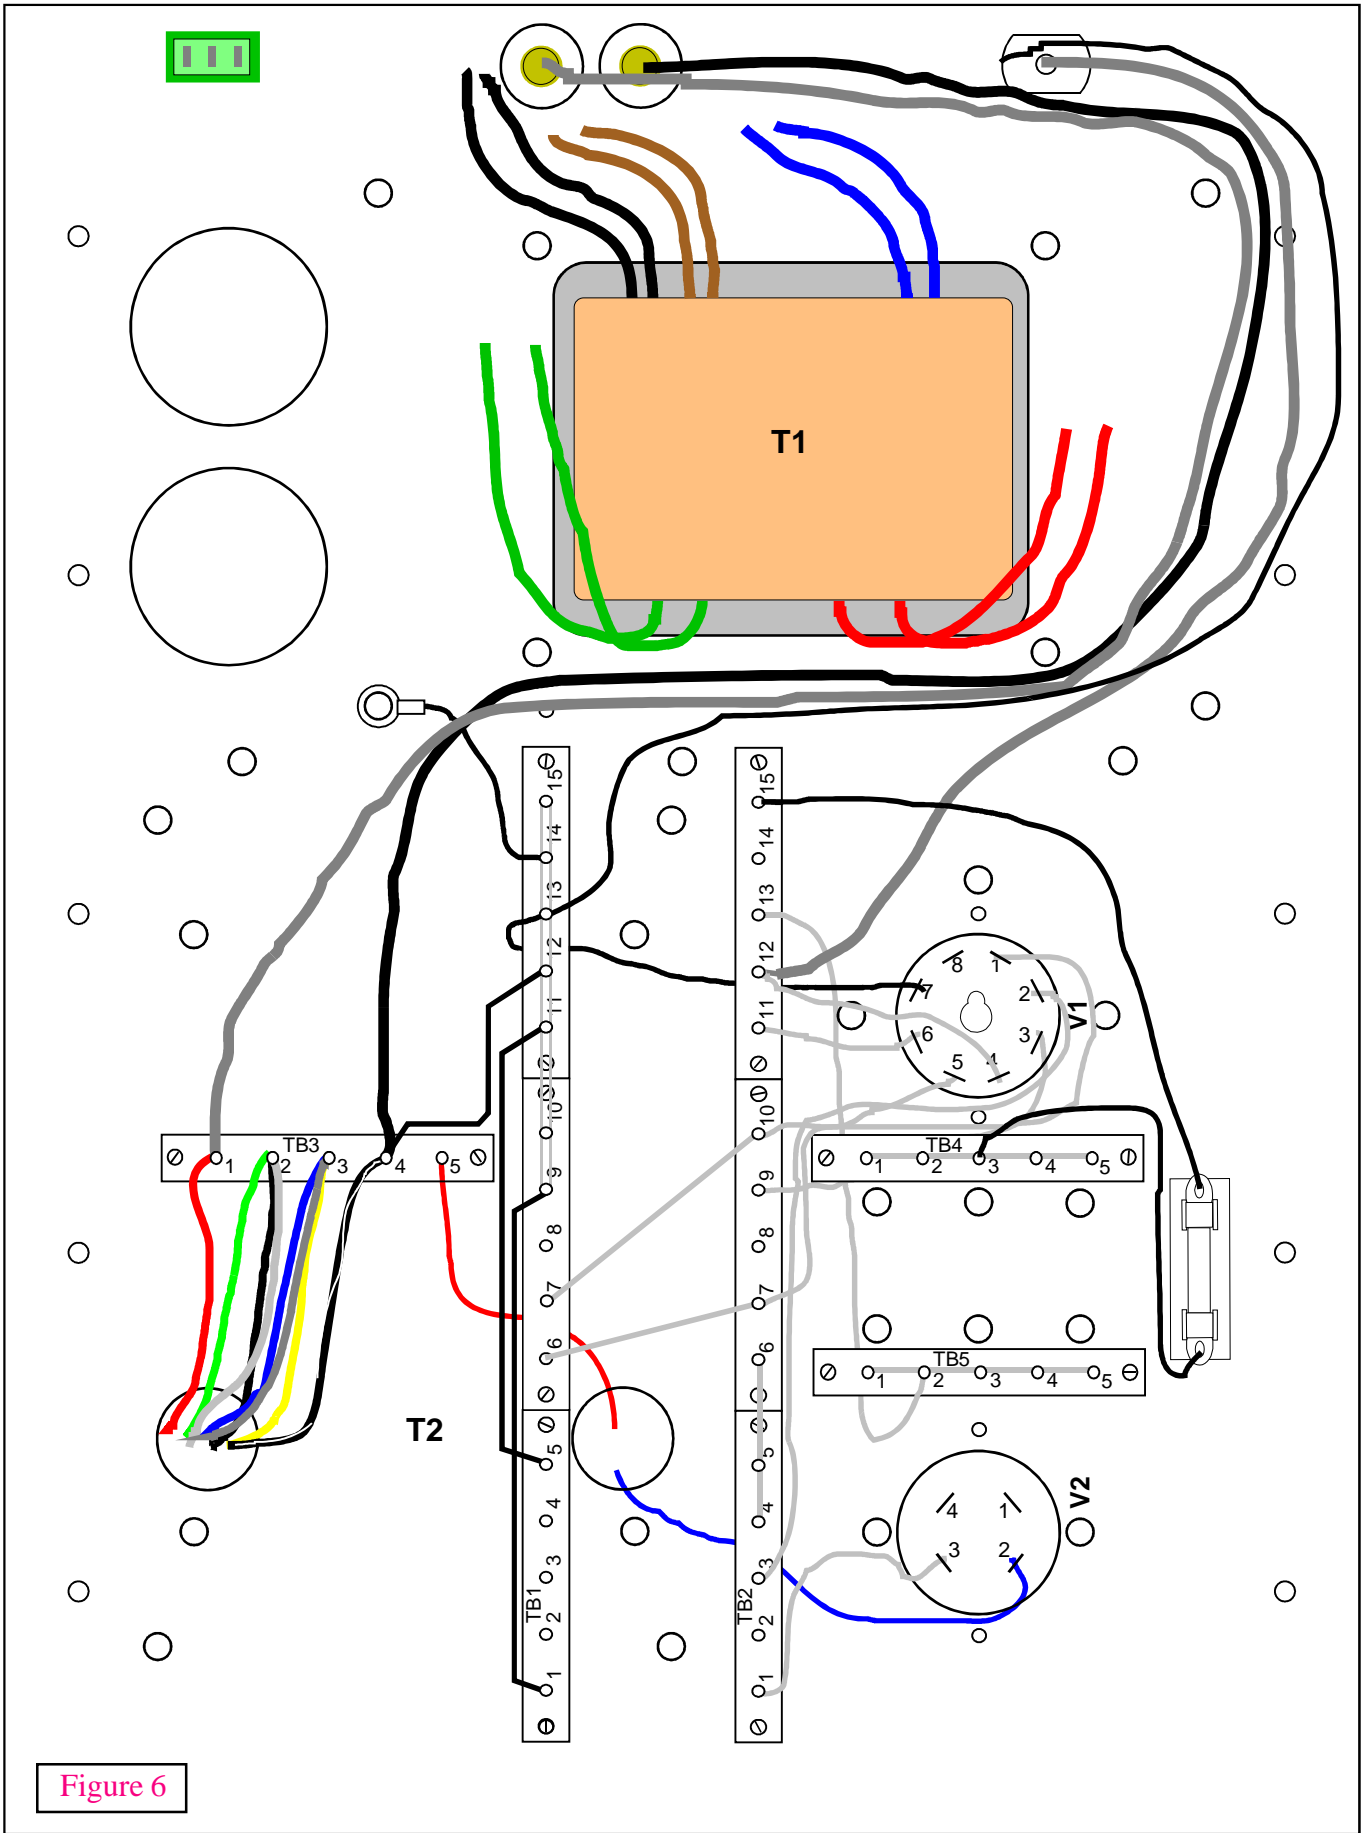

Figure 6
- 4) Refer to figure 6 for the following steps. The following diagrams will depict a somewhat messy wiring layout. This is intentional, and is done so in order to make the instructions easier to follow. Your wiring job should be much neater than this. Keep lead lengths and wires as short as possible. Route all wires close to the chassis plate. Don't make big loops across the chassis. These loops make great antennas which pickup noise, radio stations and generate hum.
Cut a piece of black hookup wire to length and solder between TB1-1 and TB1-9. Refer to figure 6.
Cut a short piece of black hookup wire approximately 3 inches in length and solder one end to TB1-14. Solder one of the terminal rings to the other end of this wire. Referring to figure 6, remove the screw, closest to TB1-14, which holds the transformer housing for T1. Insert the terminal ring and re-install and tighten this screw.